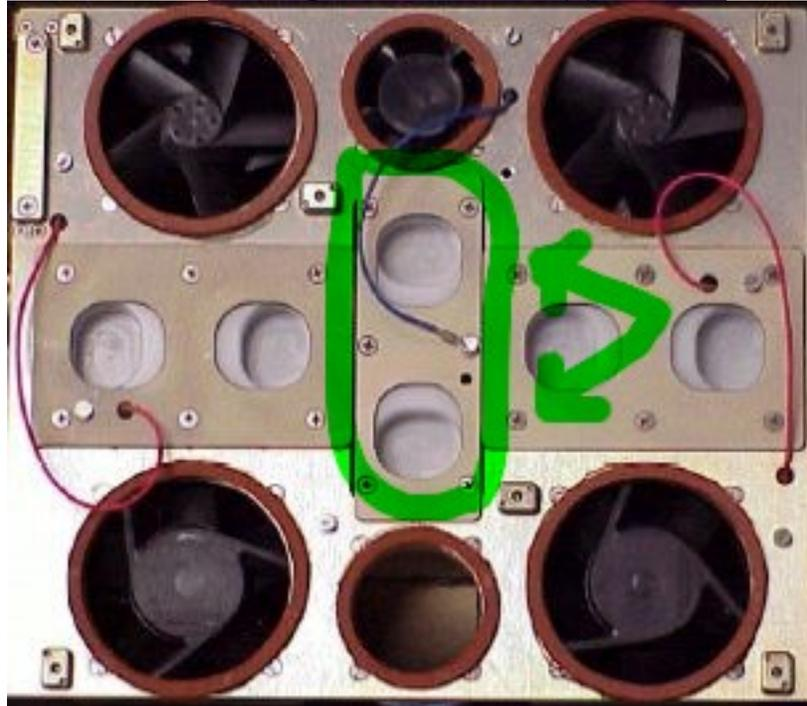

Figure 5. Removing of TCU Silica Gel Bag Lid
Biolab TCU 1 (2) Silica Gel Bag Lid → remove by pinching white knobs and pulling out (Figure 5)